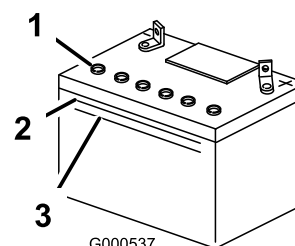

Figure 42
2. Look at the side of the battery. The electrolyte must be up to the Upper line (Figure 42). Do not allow the electrolyte to fall below the Lower line (Figure 42).
3. Remove the vent caps from the battery (Figure 42).
4. Slowly pour distilled water into each battery cell until the electrolyte level is up to the Upper line (Figure 42) on the battery case.
5. Wait five to ten minutes after filling the battery cells. Add distilled water, if necessary, until the electrolyte level is up to the Upper line (Figure 42) on the battery case.